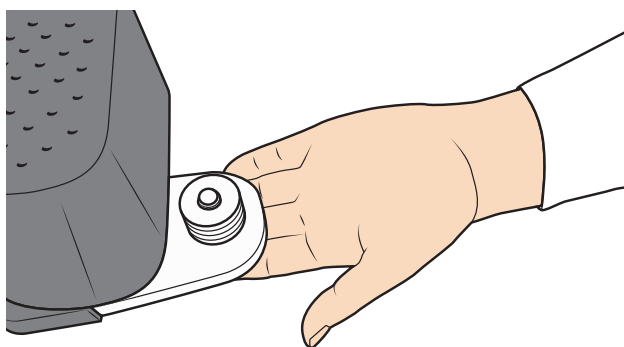

Figure 115
6. Add or remove washers to reach the desired height on the back bolt. See Figure 115.